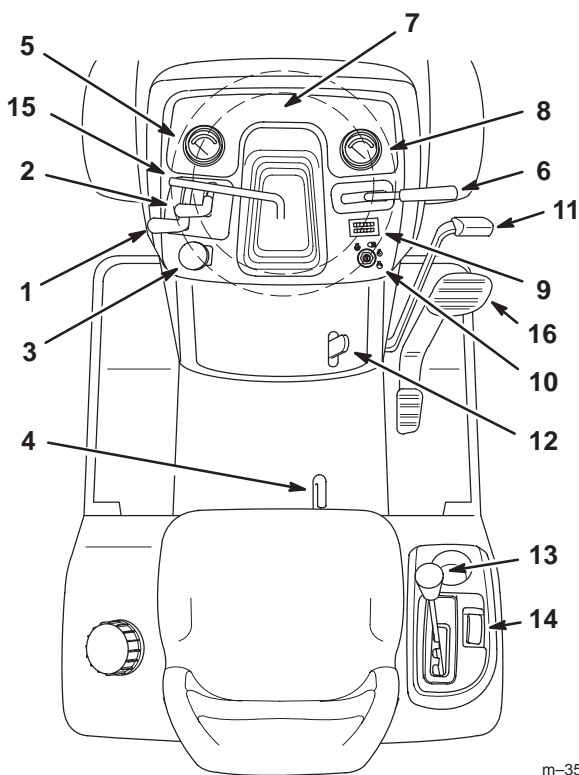

Figure 11
Become familiar with all the controls (Fig. 11) before you start the engine and operate the machine.
1. Push the brake pedal (Fig. 11) down and hold it.
2. Lift the parking brake lever (Fig. 11) up and gradually take your foot off the brake pedal. The brake pedal should stay down.
1. Push down on the brake pedal (Fig. 11).
A red light illuminates on the front console (Fig. 11) to serve as a reminder that the interlock has been deactivated.